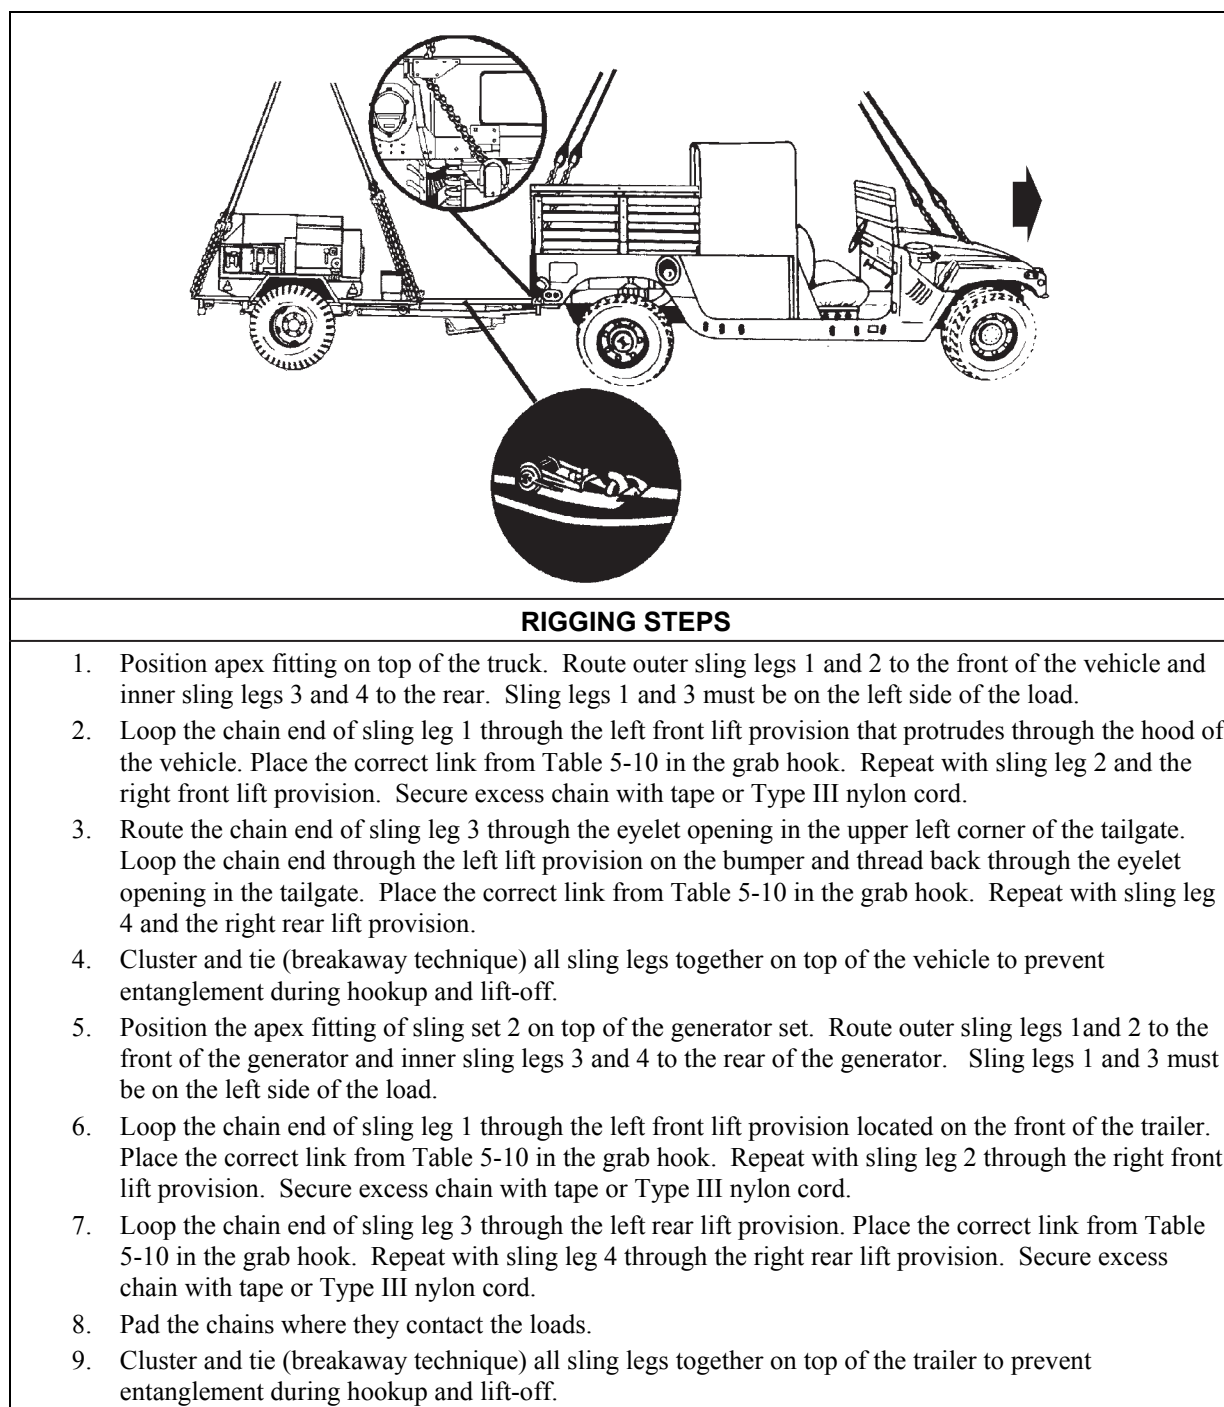

Figure 5-10. M1097 with AN/TSQ-183 Counter Battery Radar and MEP802A Generator on M116A3 Trailer
■ **Rigging.** Rig the load according to the steps in Figure 5-10.